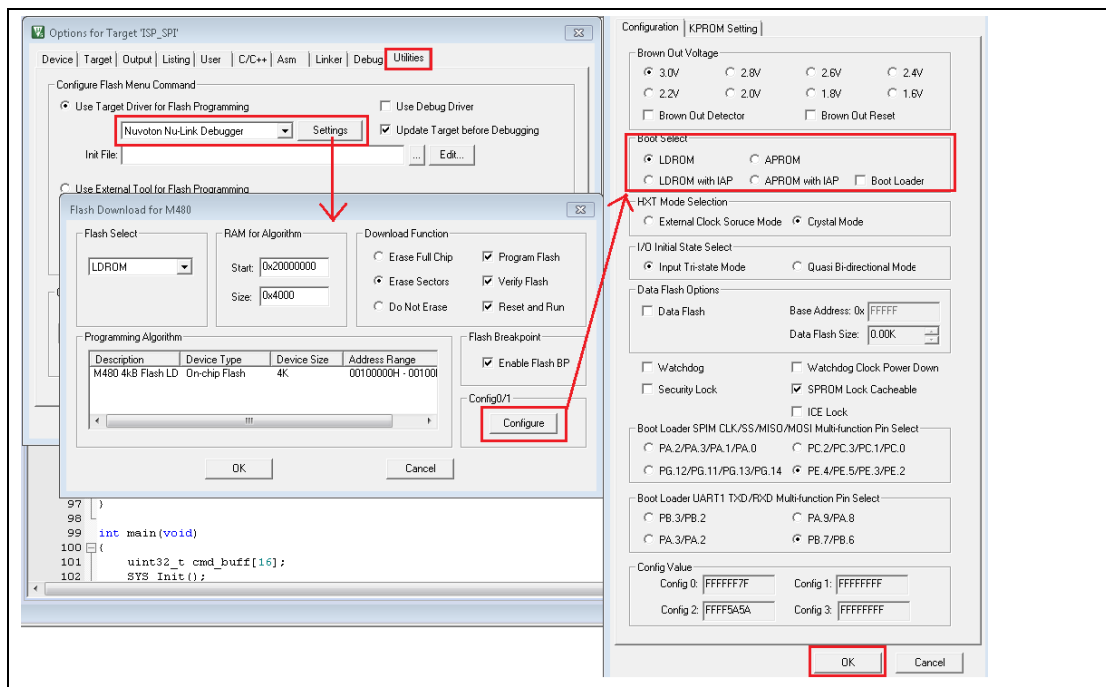

Figure 5.2-50 Boot from LDROM Setting in Keil ISP Firmware Project
- (6) Invoke **Project** → **Options for Target** → **Utilities**, select “**Nuvoton Nu-Link Debugger**” when the **Use Target Driver for Flash Programming** option is enabled, and select the **Update Target before Debugging** option, as shown in Figure 5.2-50
- (7) Click the **Settings** button to open the Flash Download form, as shown in Figure 5.2-50
- (8) Click the **Configure** button to open the user configuration form and set **Boot Select** option to LDROM and click **OK** button as shown in Figure 5.2-50
- (9) Download code to LDROM of target chip.